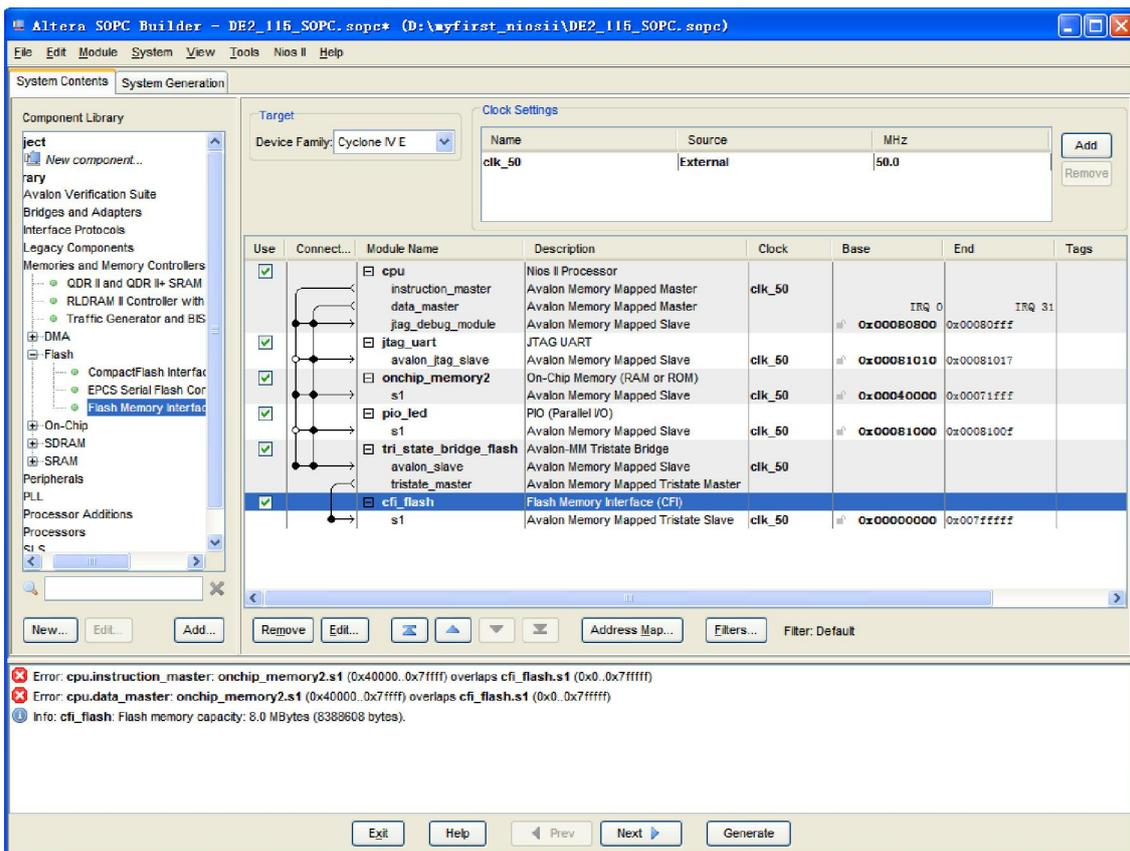

Figure 3-11 Link tri_state_bridge_flash to cfi_flash
9. Link tri_state_bridge_flash to cfi_flash as shown in Figure 3-11.